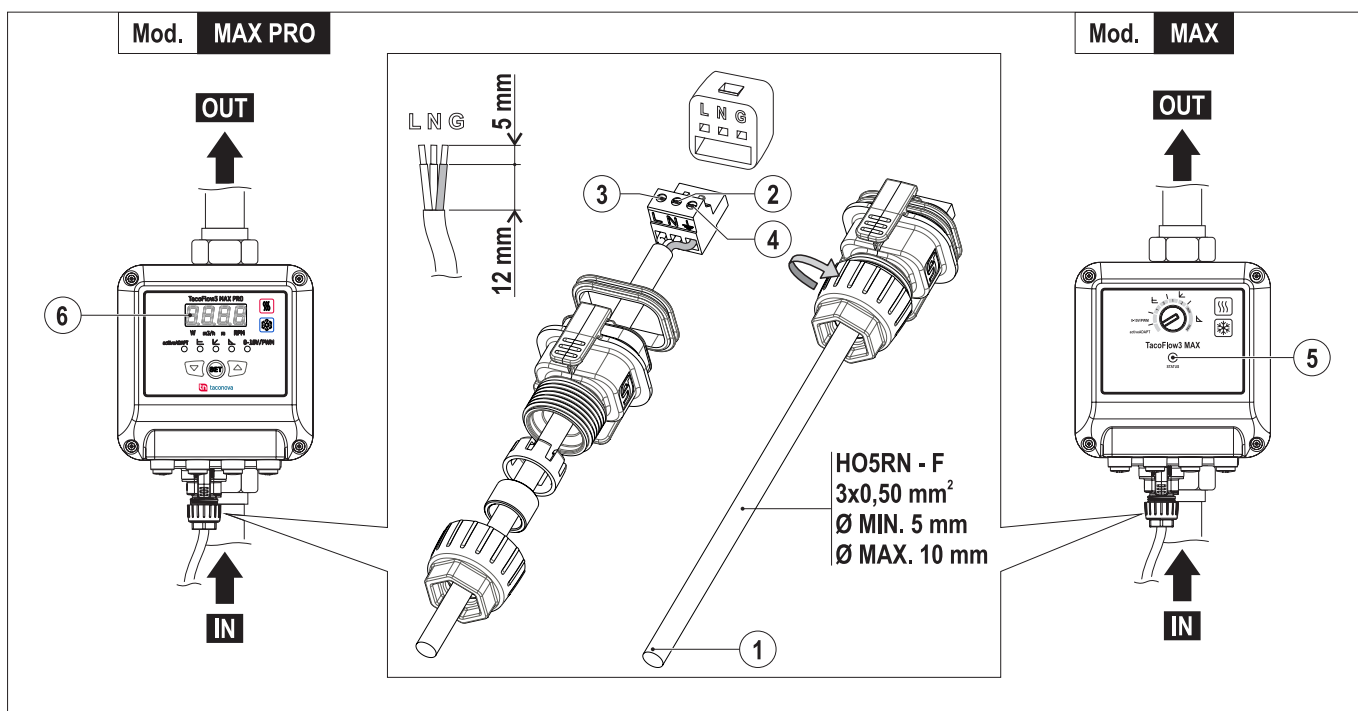

FIG. 10 (Connection to the power source)
IT IS MANDATORY TO USE A SUITABLE CABLE FOR THE REQUIRED ELECTRICAL CHARACTERISTICS (**FIG. 10 - REF. 1**).
- 1) Use a cable (**FIG. 10 - Ref. 1**) with the features indicated in **FIG. 10**
- 2) Connect the blue wire (neutral) to terminal N (**FIG. 10 - Ref. 2**)
- 3) Connect the black or brown wire (phase) to terminal L (**FIG. 10 - Ref. 3**)
- 4) Connect the yellow/green wire (earth) to terminal G (**FIG. 10 - Ref. 4**)
- 9) Enable the voltage and check the connection by the LED (**FIG. 10 - Ref. 5**) on the **MAX mod.** and the display (**FIG. 10 - Ref. 6**) on the **MAX PRO mod.** turning on